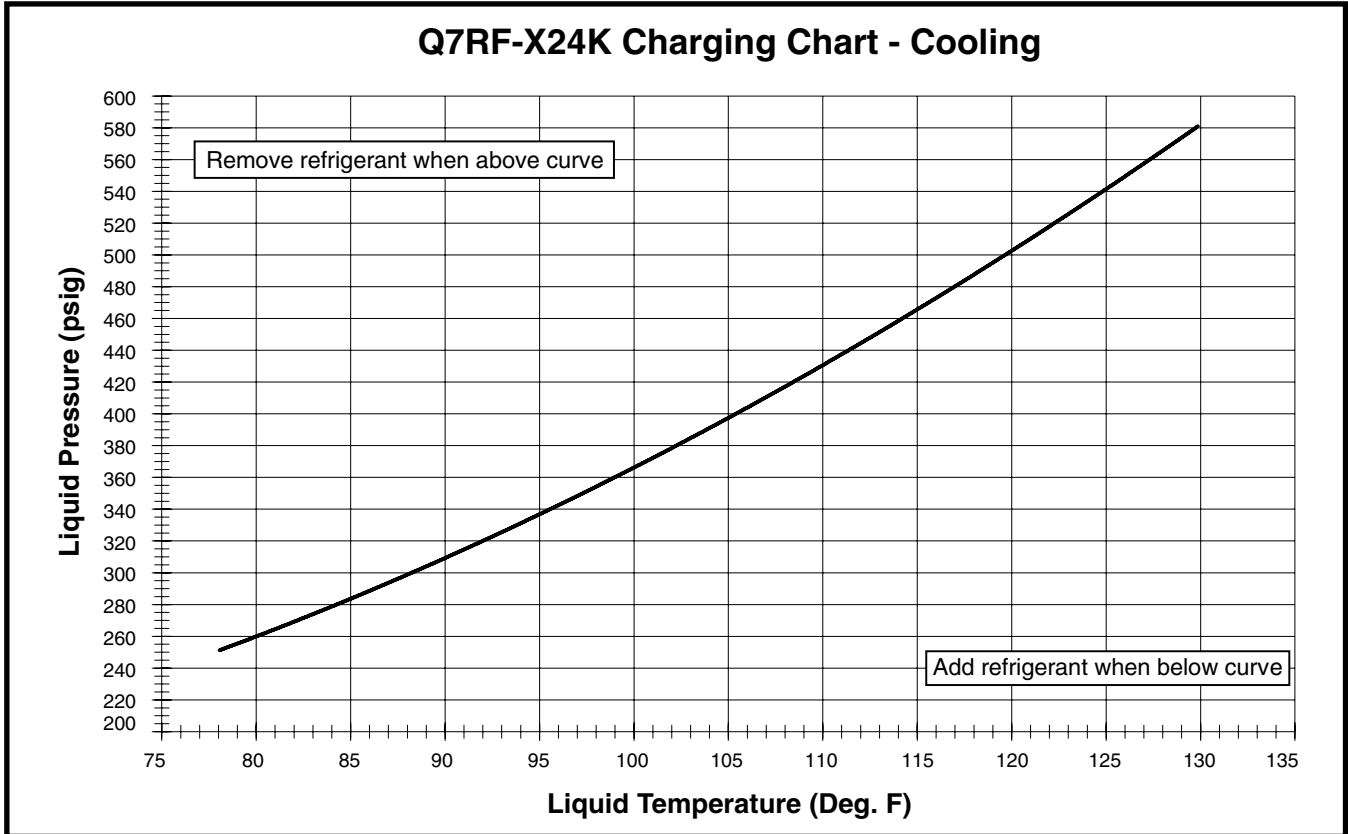
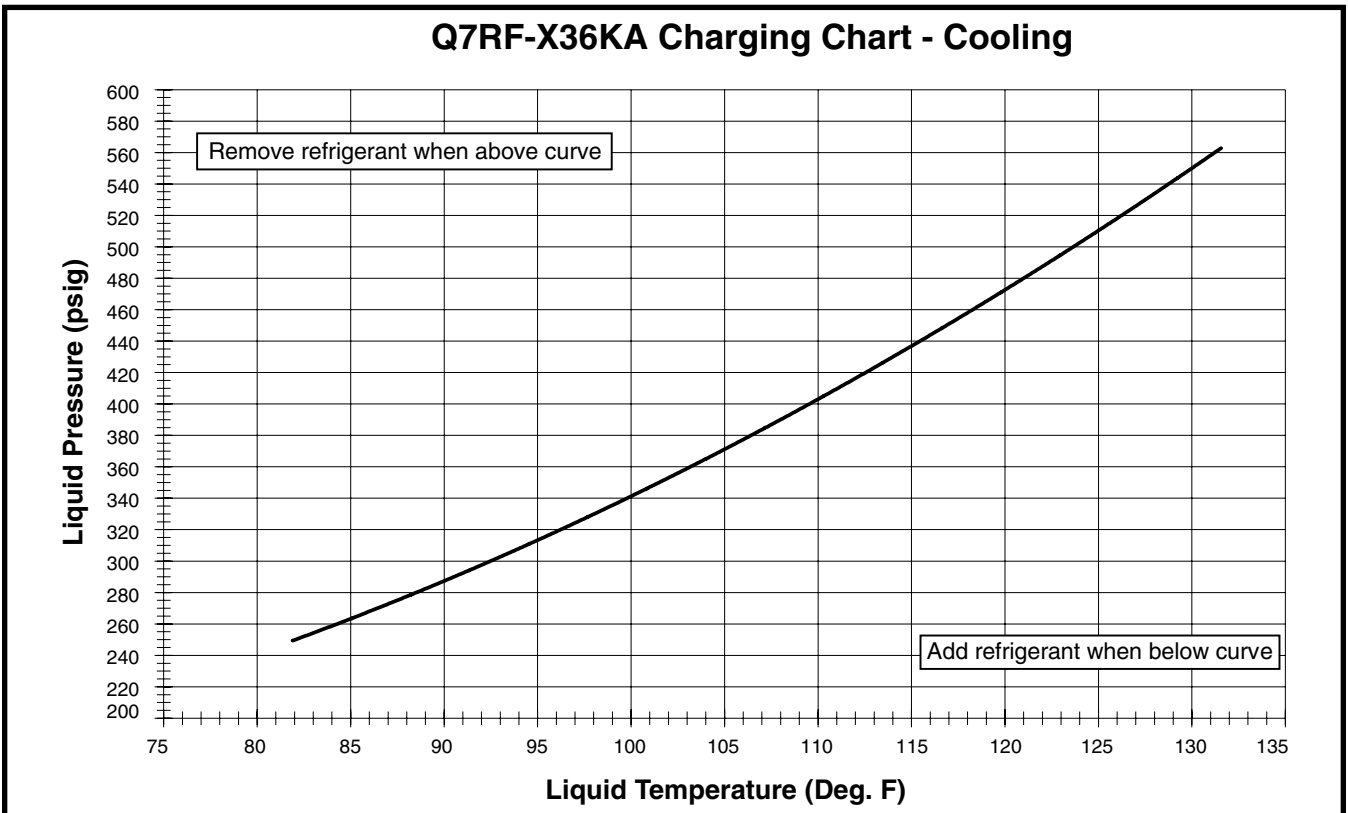
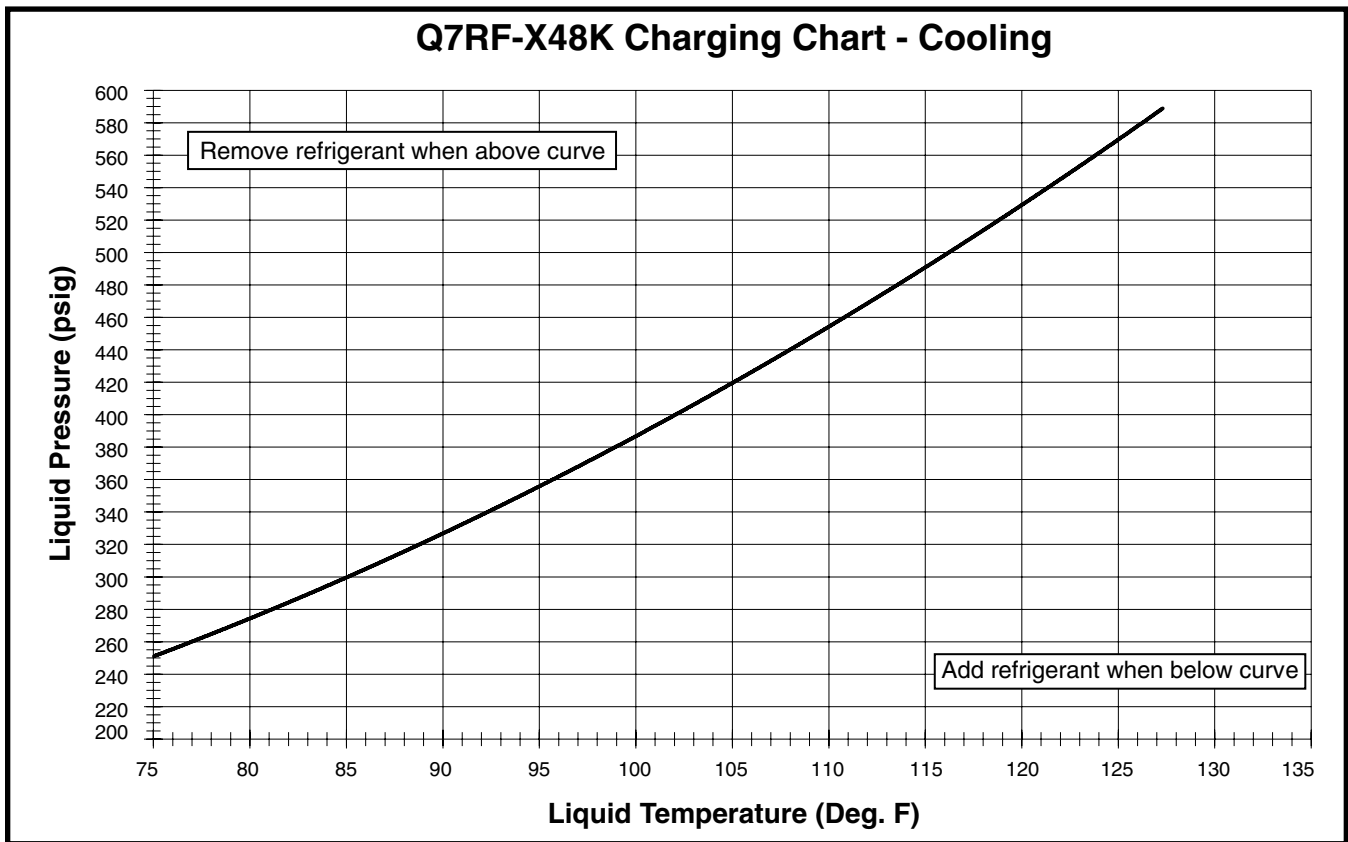

Figure 9. Charging Chart for 2 Ton Units
Figure 10. Charging Chart for 3 Ton Units
Figure 11. Charging Chart for 4 Ton Units
3. Use Figure 9 \(page 12\), Figure 10 \(page 12\), Figure 11 \(page 13\), & Figure 12 \(page 13\) to verify system conditions (during cooling mode) for proper charge amount.